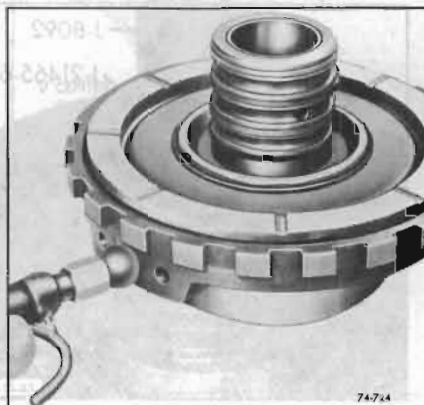

Figure 74-724
8. Air check operation of intermediate clutch piston. See Figure 74-724.